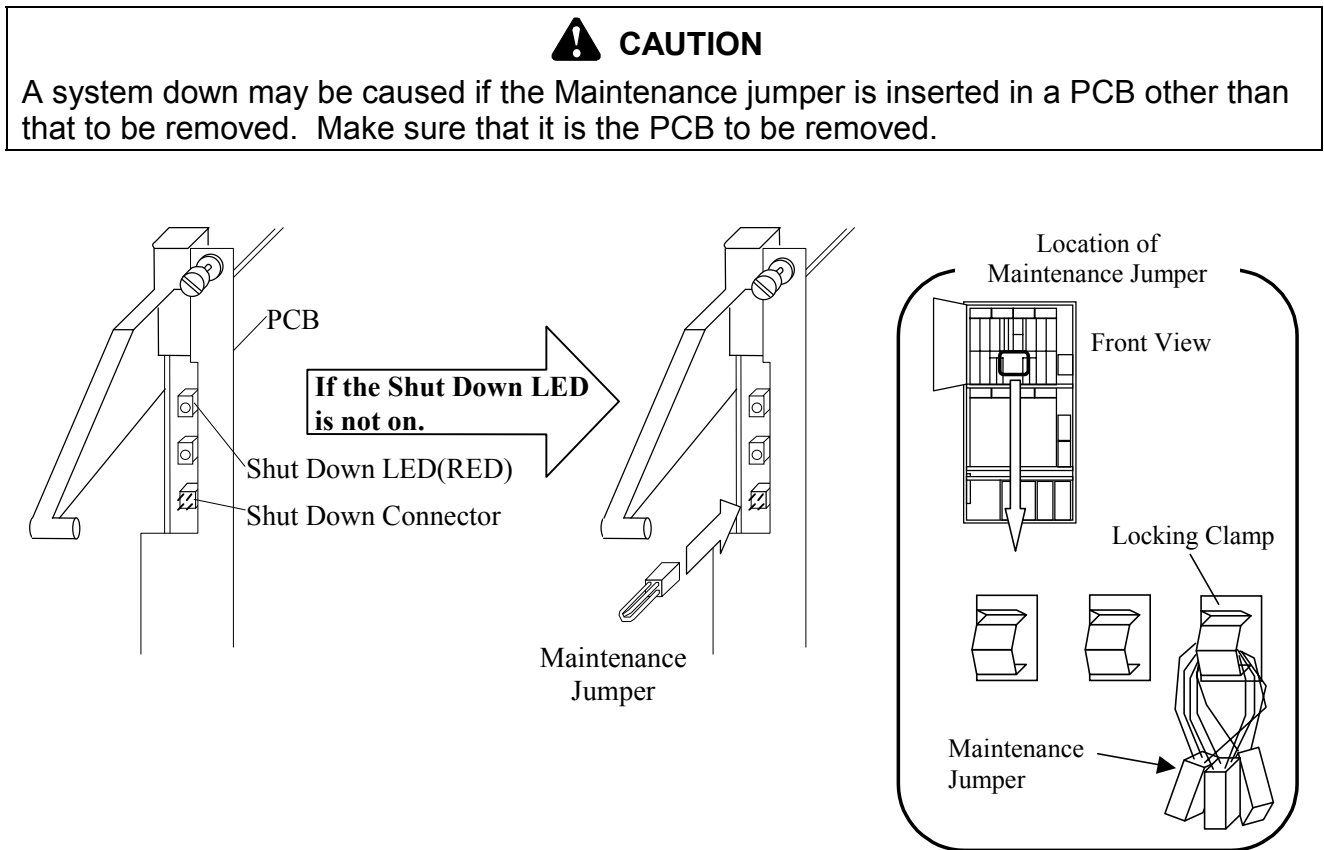

Fig. 4.2.1-4 Location of the Shut Down LED
- a. While referring to Fig. 4.2.1-4 and Table 4.2.1-6, check the Shut Down LED on the Cache Memory PCB in the Front Logic Box. Connect the Maintenance Jumper to the Shut Down Connector if the Shut Down LED is not on.